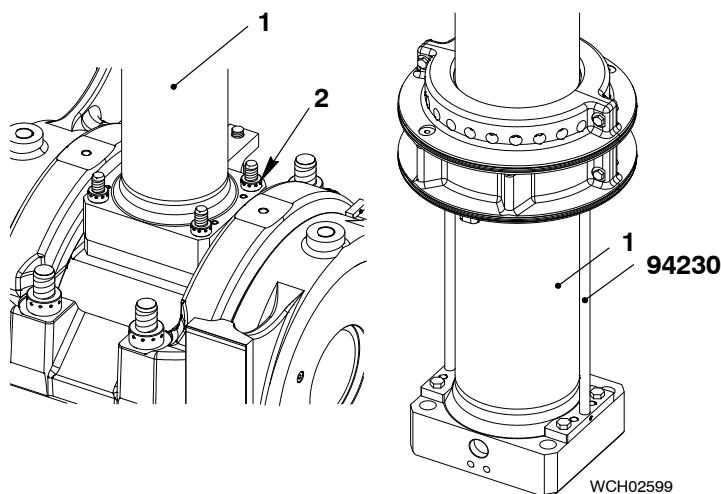

Fig. 12
- 25) Remove the distance holders (94230, Fig.12).
- 26) Tighten the round nuts (2) on the piston rod foot (1). Refer to the procedure in 9403 4.